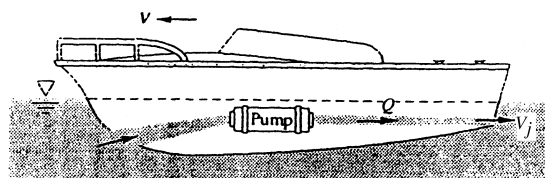

Fig. P3.88
**3.88** The boat in Fig. P3.88 is jet-propelled by a pump which develops a volume flow rate  $Q$  and ejects water out the stem at velocity  $V_j$ . If the boat drag force is  $F = kV^2$ , where  $k$  is a constant, develop a formula for the steady forward speed  $V$  of the boat.